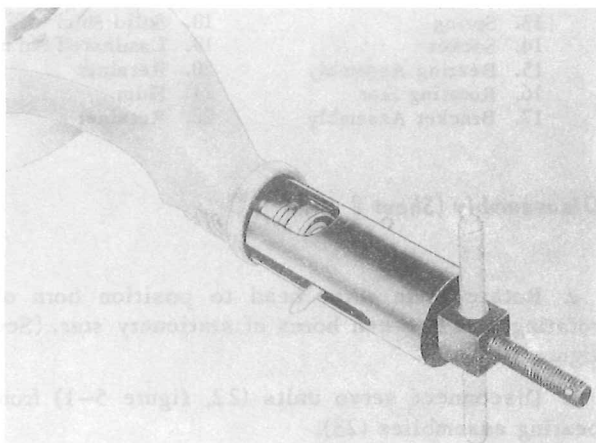

Figure 5-9. Removing Bearing Assembly from Rotating Star
f. Position bolt and bearing remover, part No. S10-50-4147-10, over bearing assembly which is to be removed from star assembly. (See figure 5-9.)